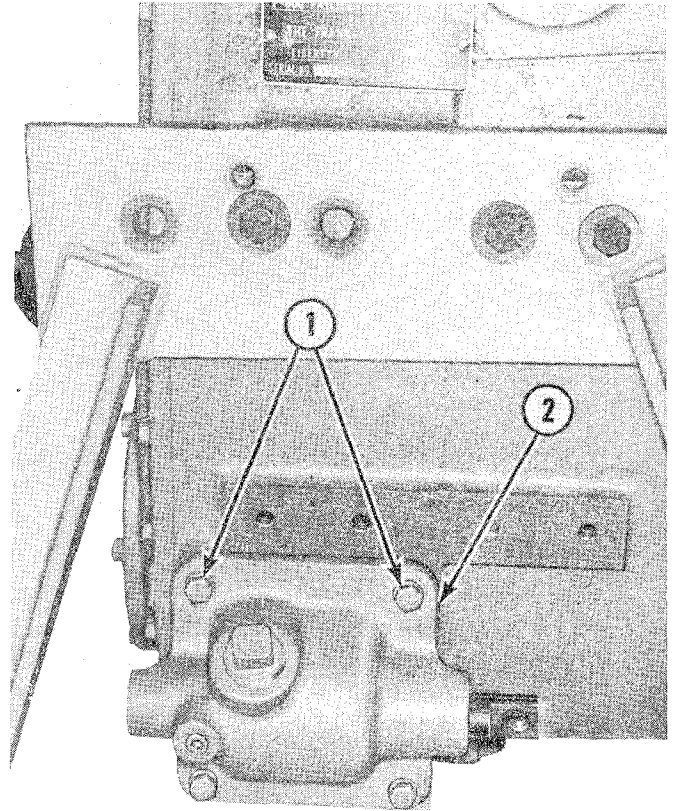

Figure 4-26
Remove shifter housing (2, Fig. 4-26) from transmission by removing cap screws (1).